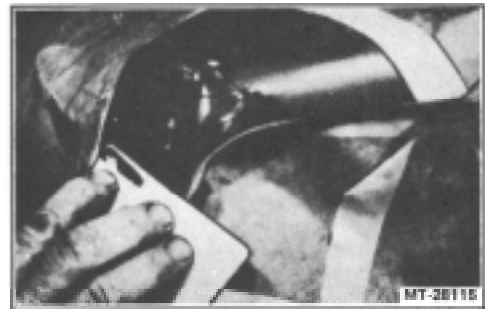

Figure 16. - Applying Glazing Putty
- If the filler is slightly porous (has fine pinholes), apply a thin coat of glazing putty (Figure 16).